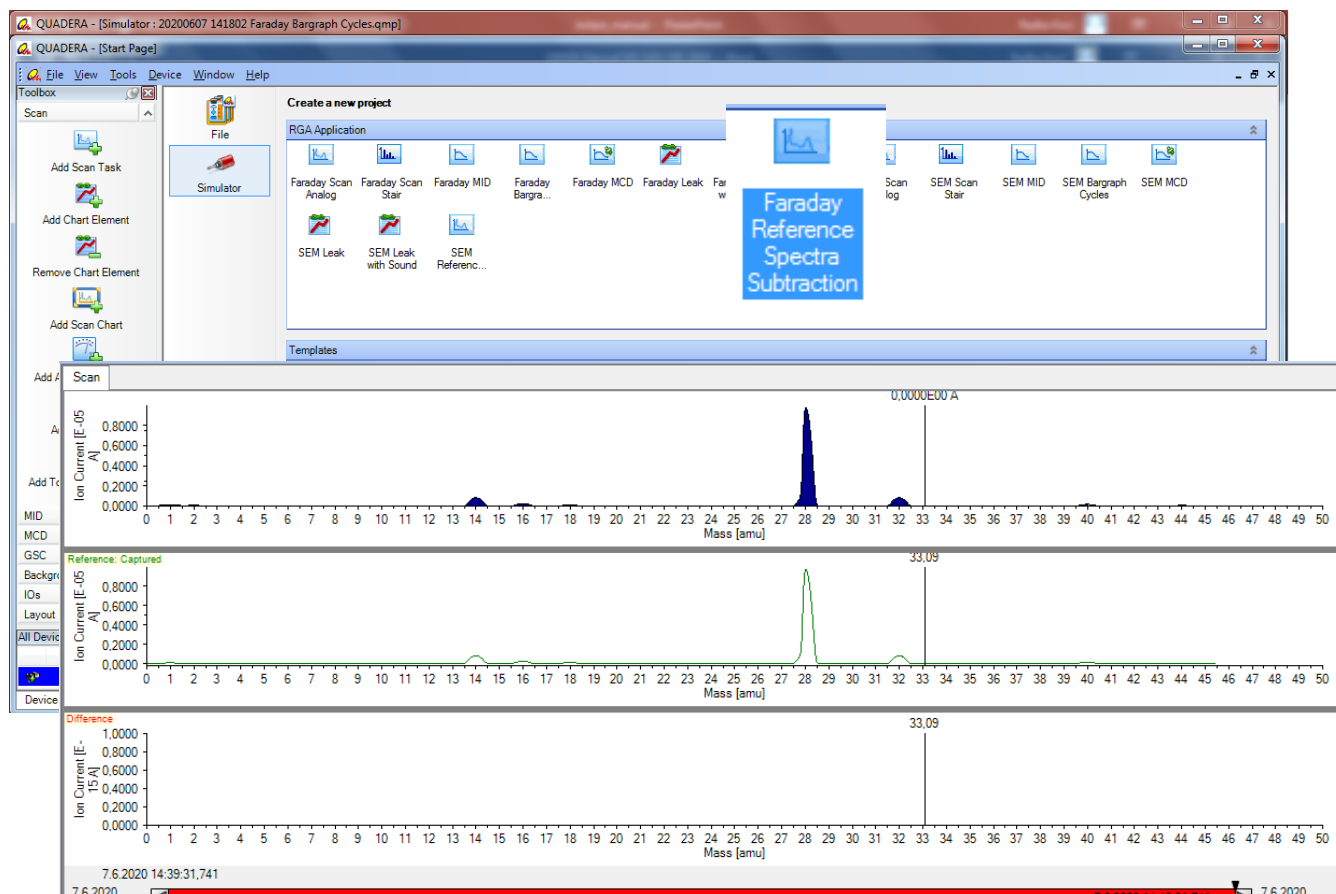

Figure 105: In the Figure the reference spectrum is identical as the spectrum of the sample, the difference is zero
- **Reference Spectra Subtraction** is a measurement project to eliminate the influence of the environment on the analyzed sample. Measure the gas spectrum of the analytical space and store it as a reference spectrum. The spectrum of the sample is then determined in the same analytical space as the reference spectrum. The automatic subtraction of the reference spectrum from the sample spectrum helps to obtain a real spectrum of components and fragments present in the sample (**Figure 105**).